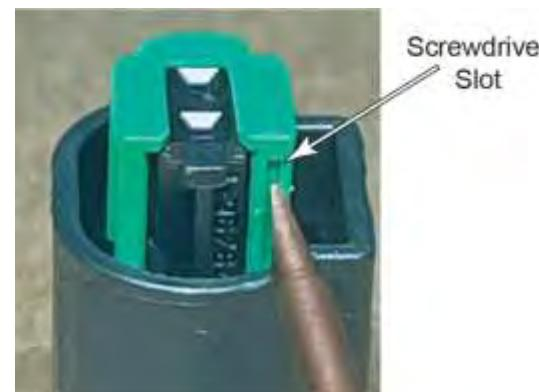

Figure 136
- (4) Close the second contact retainer by using the blade of a small screwdriver to lift the second contact retainer on the side where the locking latch is located (Figure 136).